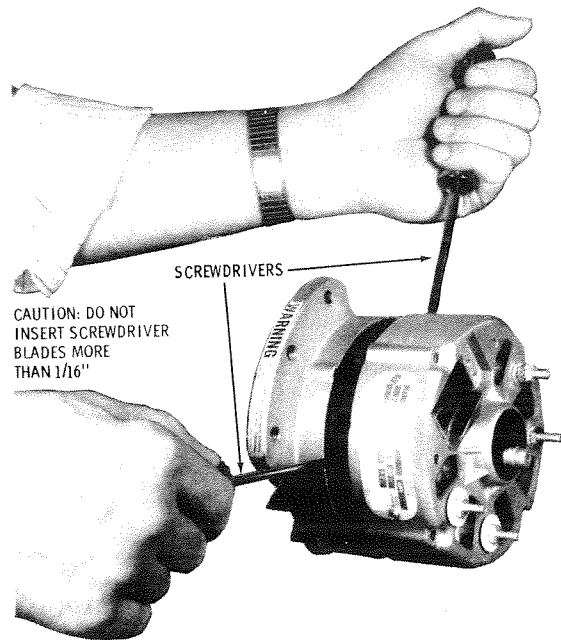

FIG. 4-15 FRONT & REAR HOUSING SEPARATION
**SEPARATE REAR HOUSING FROM FRONT HOUSING** — Carefully insert two small bladed screwdrivers in the stator slots between stator and front housing (See Figure 4-15).